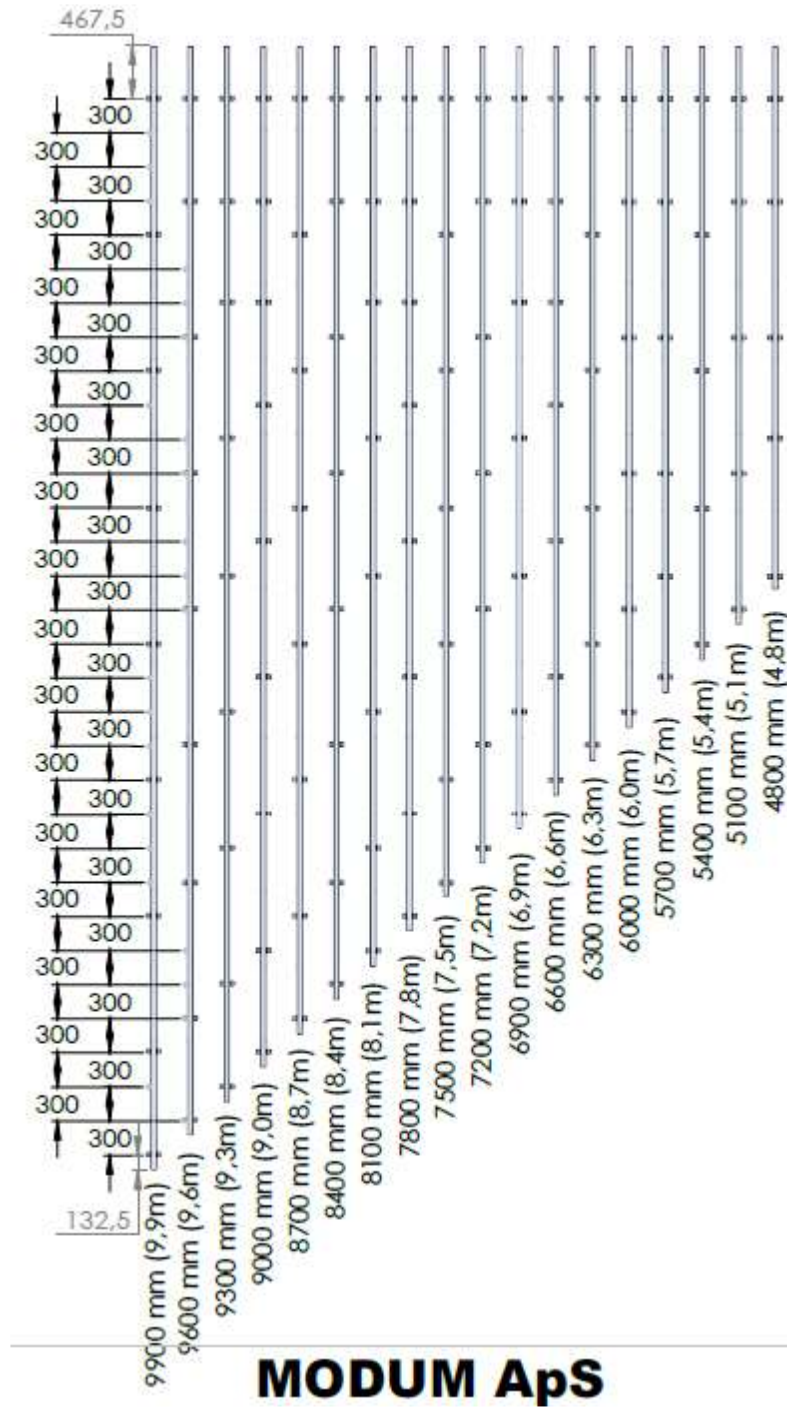

FIGURE 2 – SAMPLE LADDER SIZES AND BRACKET LOCATIONS [dimensions in mm (m)]
3.2.5 Mounting bracket: Aluminum alloy, EN AW-6063 T66, EN 537-3, EN515 surface treatment, anodizing E6 15 micron natural, according to ISO 7599. The mounting bracket is used to secure the inner rail to building structure. One mounting bracket is located at either the first or second rung from the top of the section and at the last rung in the section with one additional bracket at least every fourth rung. See Figure 2 for additional details on locations for mounting brackets. See Figure 3 for additional mounting bracket details.
¹See Figure 2 for locations of mounting brackets.